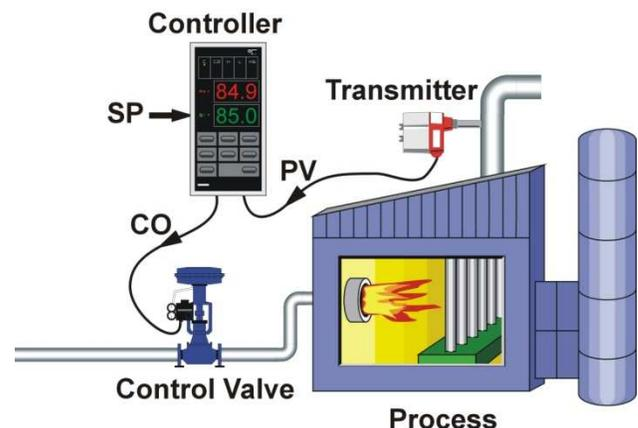

Figure 2. Automatic Control
To relieve our operator from the tedious task of manual control, we automate the controls – i.e. we install a PID controller (Figure 2). The controller has a Set Point (SP) that the operator can adjust to the desired temperature. We also have to automate the control valve by installing an actuator (and perhaps a positioner) so that the Controller's Output (CO) can change the valve's position. And finally, we'll